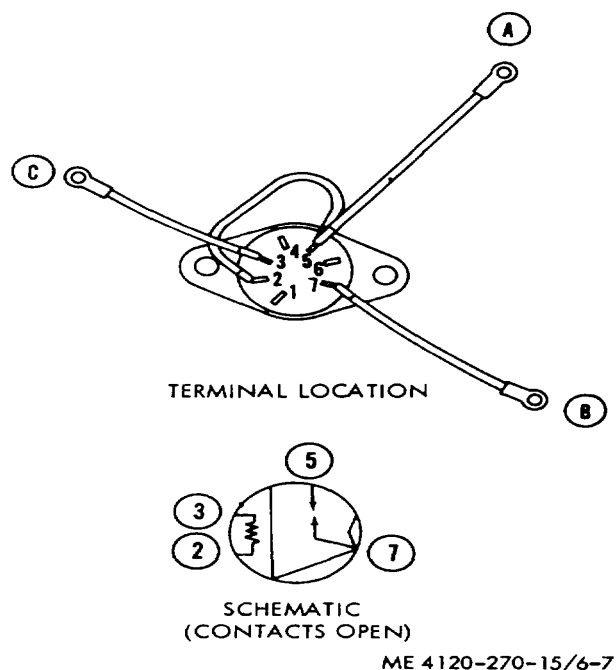

Figure 6-7. Time delay relay test points.
(1) Refer to figure 6-7 and place a continuity indicator or multimeter on low OHMS range across leads A and B.
(2) Apply 2-28V DC from a test source or two 12-volt batteries in series across leads A and C.
(3) Begin timing the relay from the instant DC power is applied until the continuity indicator or multimeter indicates the relay contacts have closed. Normal delay is 30 seconds :8 seconds. Replace time delay relay if delay time is not according to specifications.